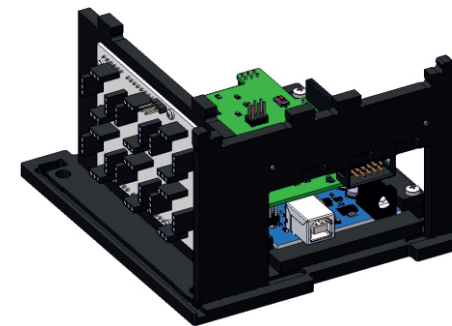

Fig. 41: Mounting a side wall with a detent on the base plate
8) Place the side wall together with the detent on the bottom base plate. To do that, align side wall protrusions with holes in the base plate and latch them (Fig. 41):